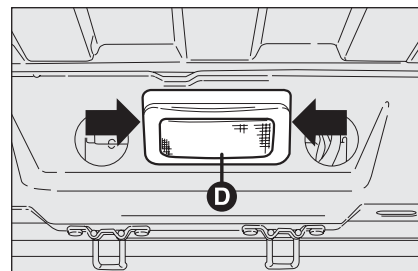
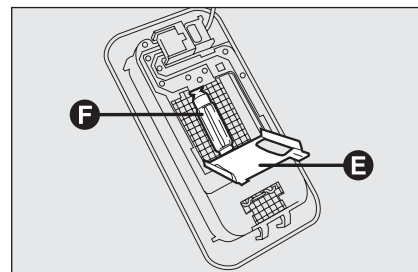

fig. 36
fig. 37
- ☐ work in the points shown by the arrows and remove light **D**-fig. 36;
- ☐ open the protection lid **E**-fig. 37;
- ☐ replace bulb **F**-fig. 37 releasing it from the side contacts making sure that the new bulb is correctly clamped between the contacts;
- ☐ re-close the protection lid **E**-fig. 37 and secure light **D**-fig. 36 into its housing locking it properly.